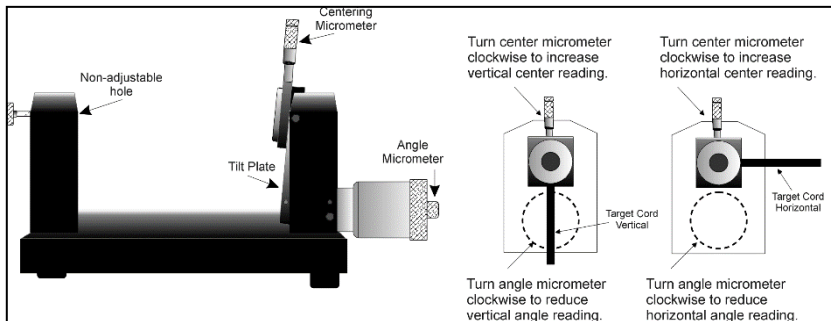

Figure 44 - Model A-807 Calibration Mounting Fixture
*Note: If using the Model A-807 Calibration Mounting Fixture, (see **Figure 44**) the target must be rotated 90° before performing a horizontal calibration. If the calibration fixture you are using has two centering micrometers, such as the T-230, the horizontal centering micrometer may be used and there is no need to rotate the target.*
In order to use the automated features of the Read8 software, calibration for a center-and-slope target must be performed with the target mounted in the A-807 calibration mounting fixture (see **Figure 44**). This fixture is equipped with both a centering micrometer and an angle micrometer.